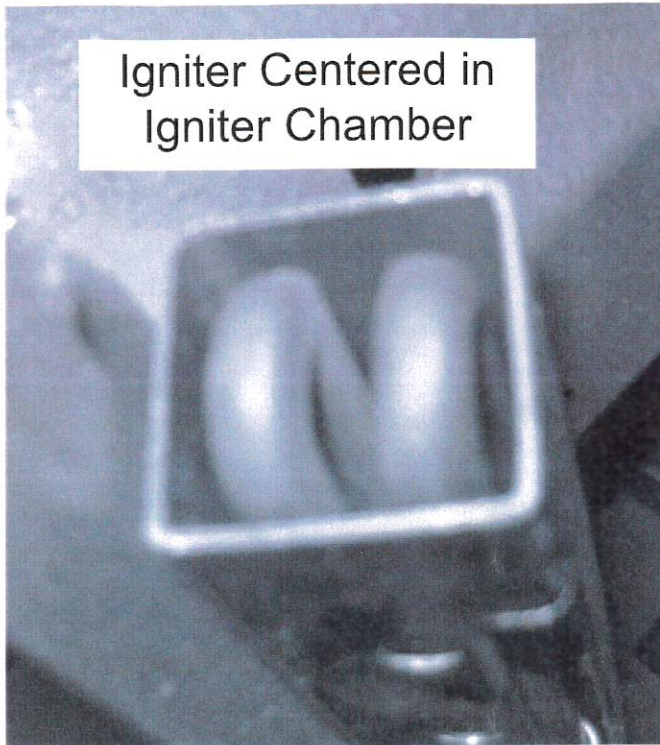

Figure 9
**NOTE:** Make sure the igniter is centered in the igniter chamber (**Figure 9**).